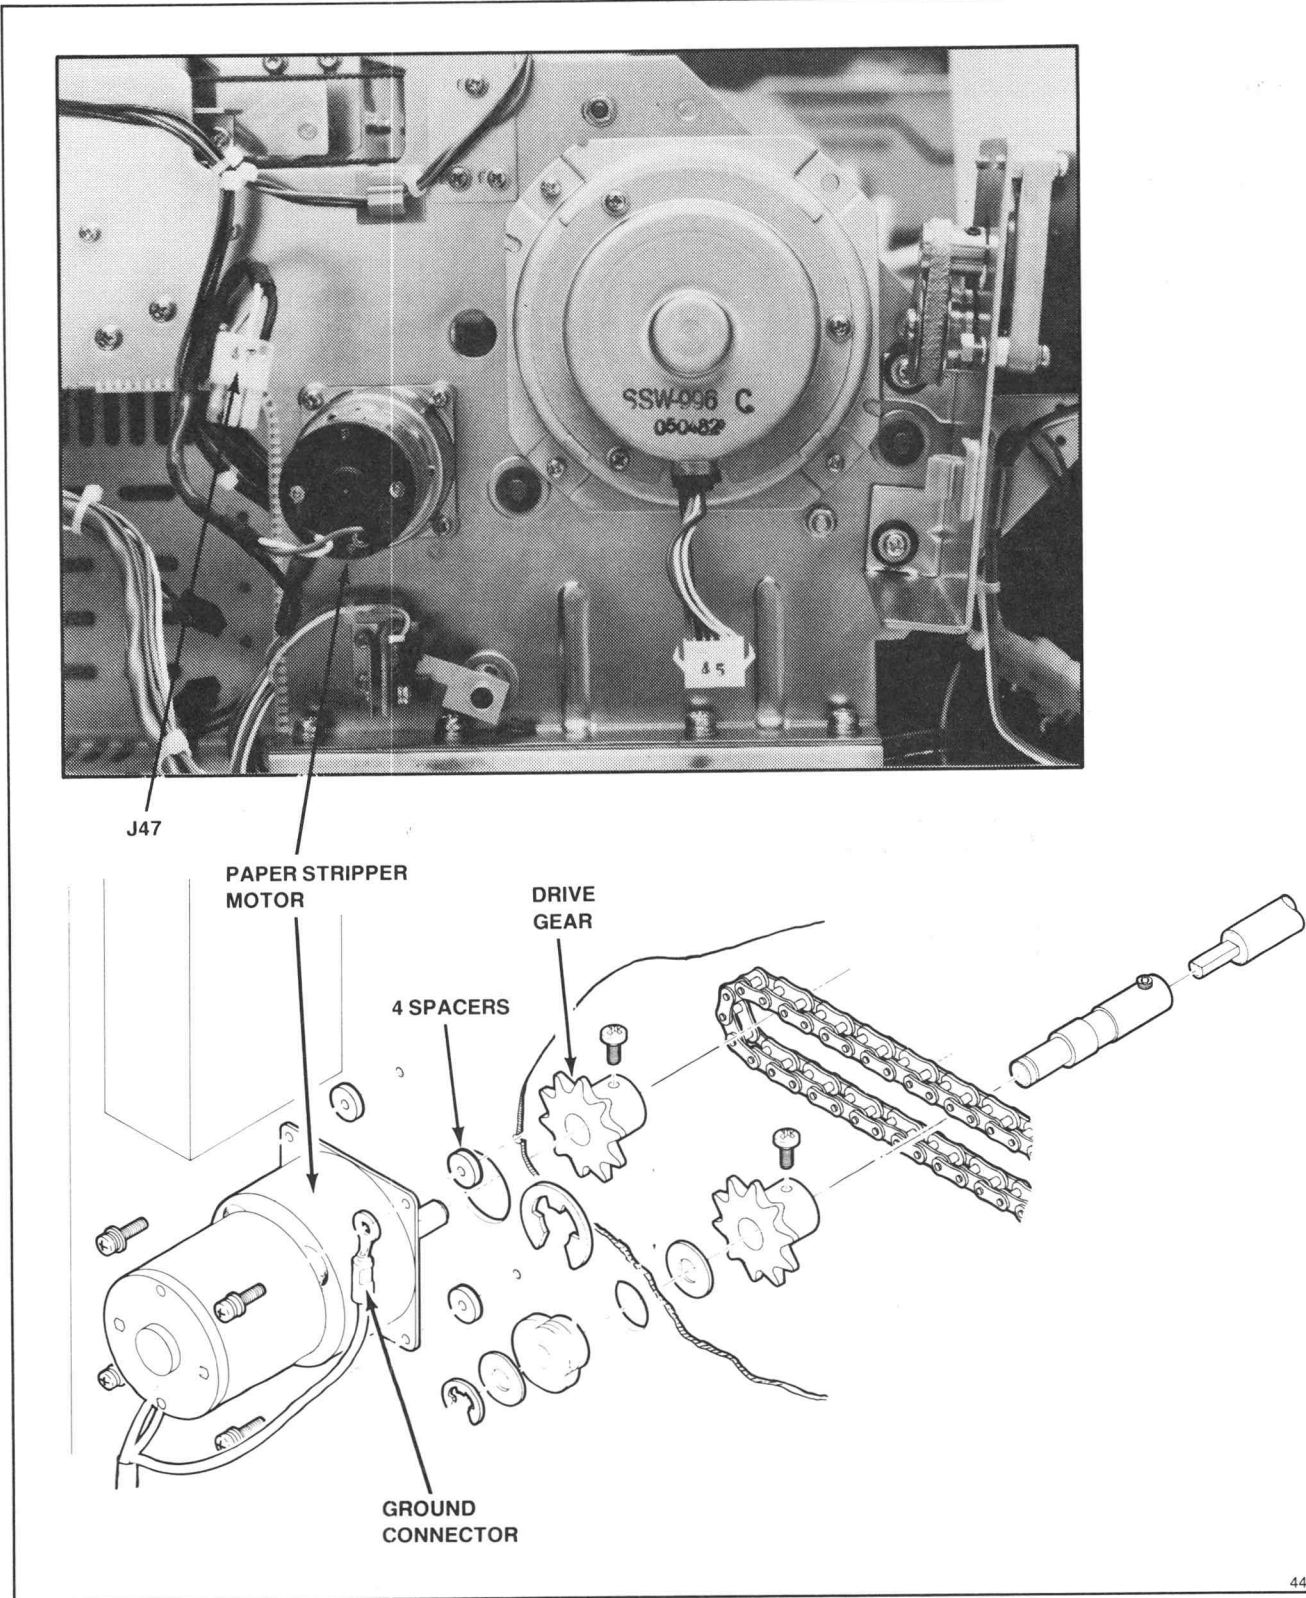

Figure 7-16. Paper Stripper Motor Removal.
3. Disconnect J47 from the stripper motor. See Figure 7-16.